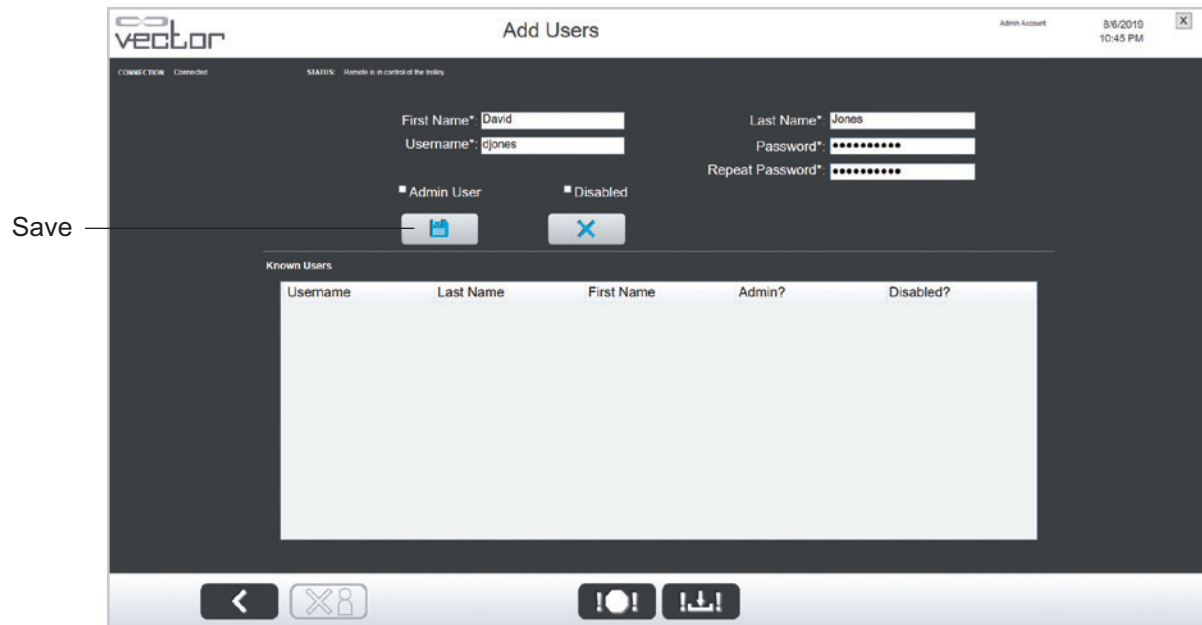

Figure 11-4: Add Users Screen
2. The Add Users screen will open. See Figure 11-4.